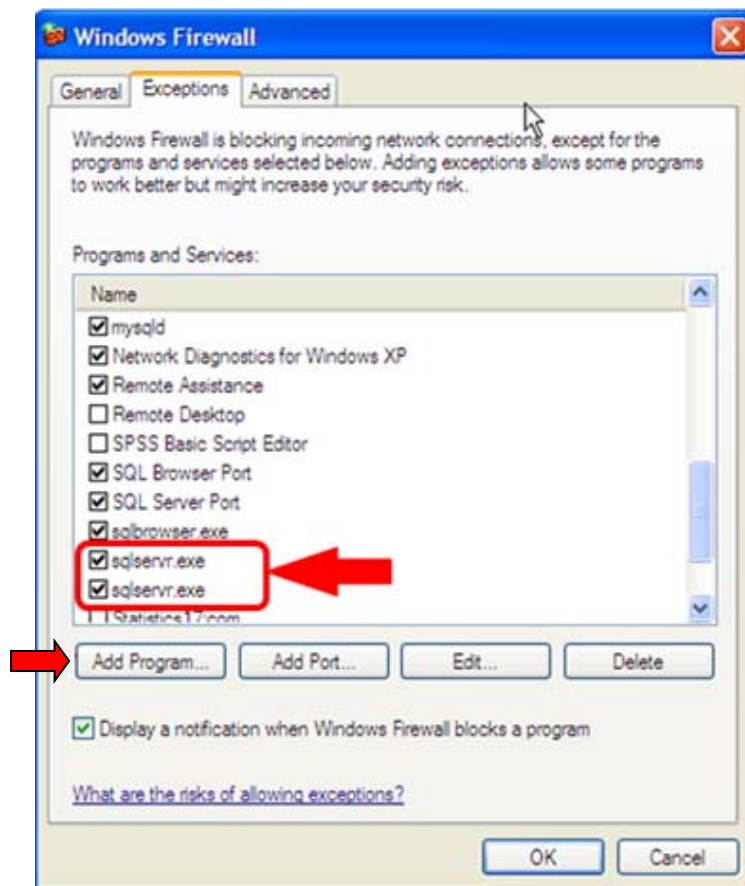

Figure III-9. Windows Firewall Window (Exceptions Tab)
3. Open the Exceptions tab (Figure III-9).